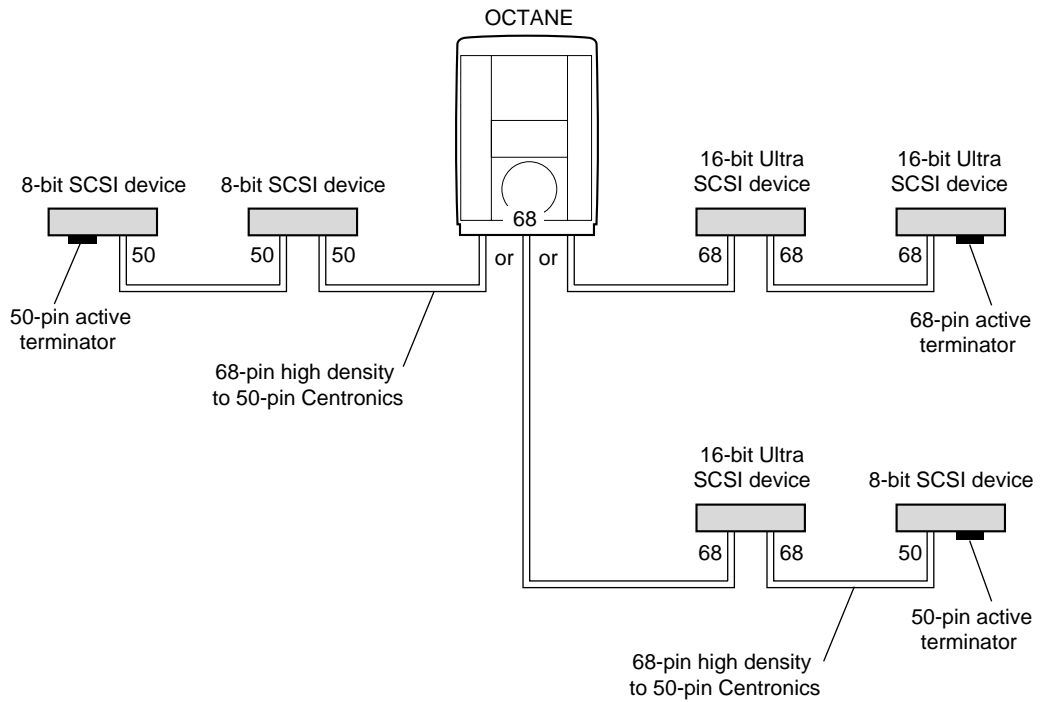

Figure 6-4 Using the Correct Cables Between Devices and/or the OCTANE Workstation
2. Connect the fastest SCSI device or devices to the OCTANE workstation and each other, then connect slower devices at the end of the chain. See Figure 6-4.
- If you are attaching the device to the workstation, use the high-density 68-pin to Centronics® 50-pin Fast SCSI cable. See Figure 6-4.